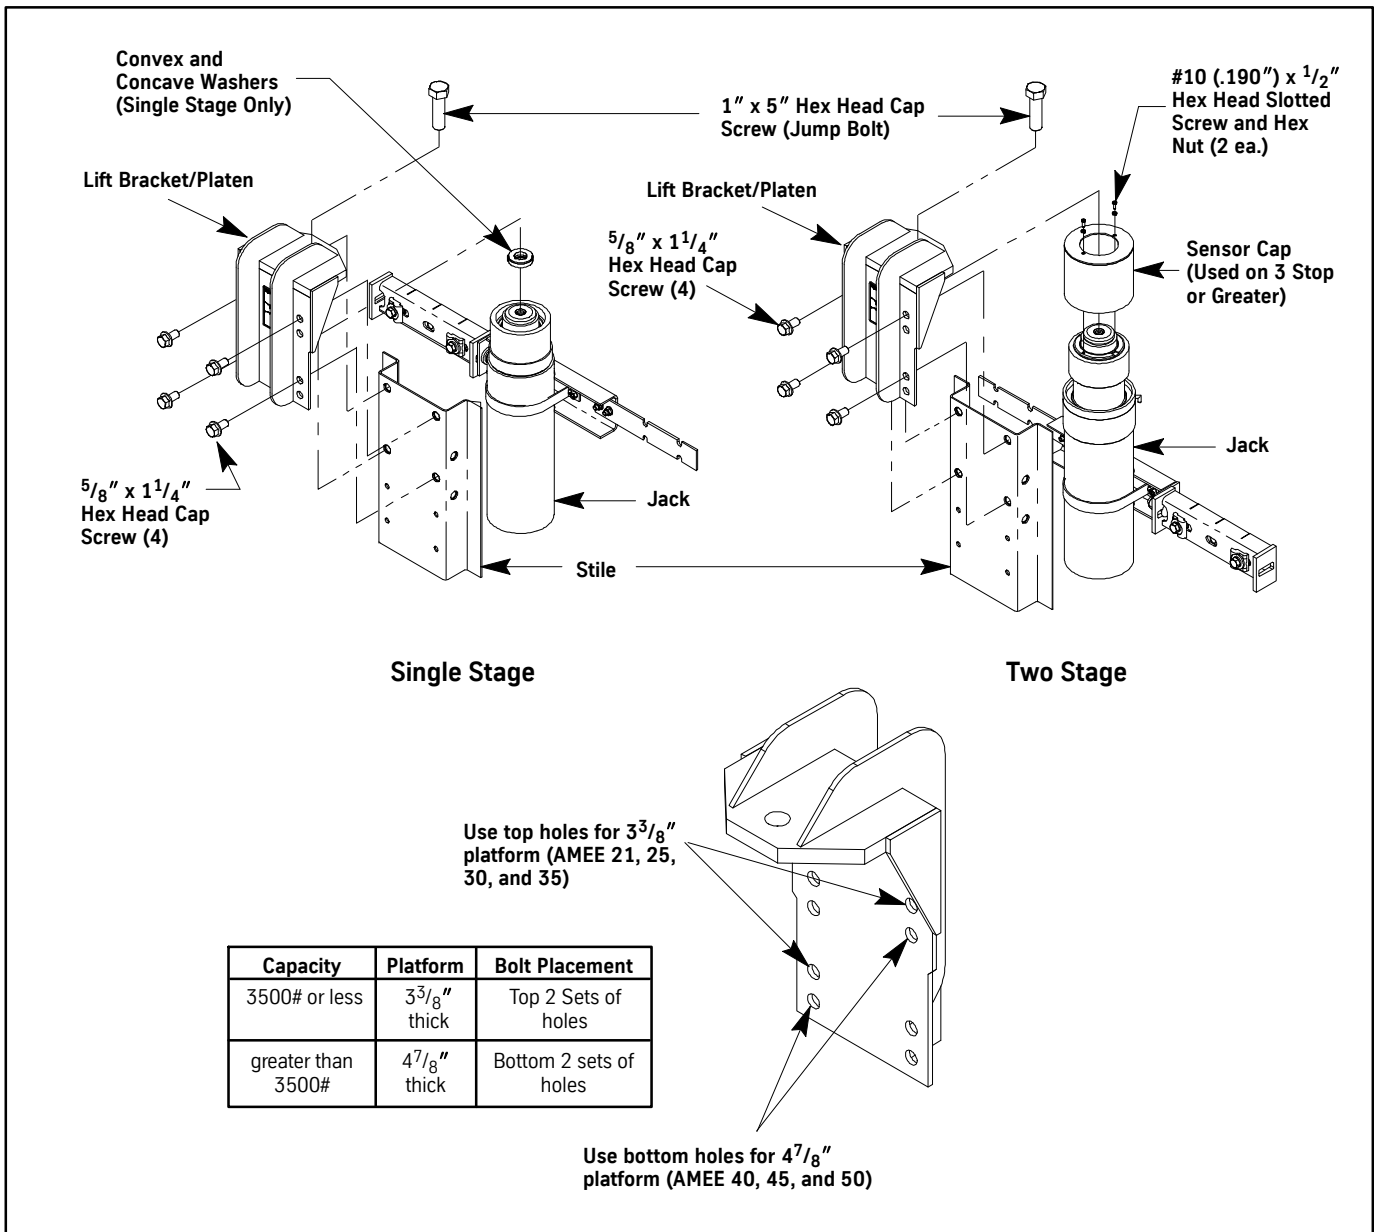

Figure 14 - Lift Bracket/Platen Installation on Stile and Jack
1. Bolt the lift bracket/platens to the stiles using four Hex Head Cap Screws. See Figure 14.
2. Hoist the first stile and lift bracket/platen assembly up and “hook” it onto the top of the plunger. See Figure 14.
3. Install the jump bolt through the lift bracket/platen assembly and into the plunger. See Figure 14.